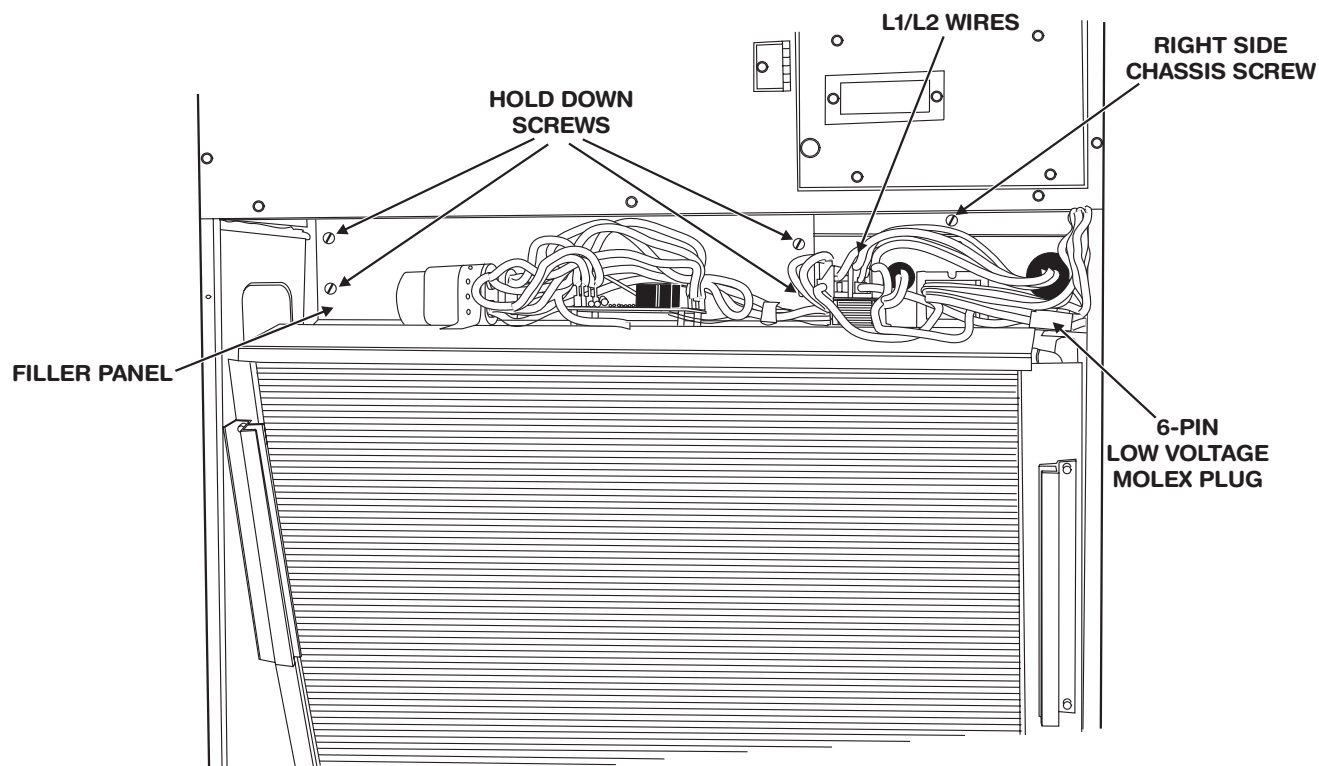

Figure 3-2
4. Disconnect L1 and L2 from the compressor contactor (Figure 3-2).
5. Disconnect the 6-pin low voltage molex plug (Figure 3-2).
6. Remove the filler panel by removing the four hold down screws (Figure 3-2).
7. Remove the right side chassis screw (Figure 3-2).